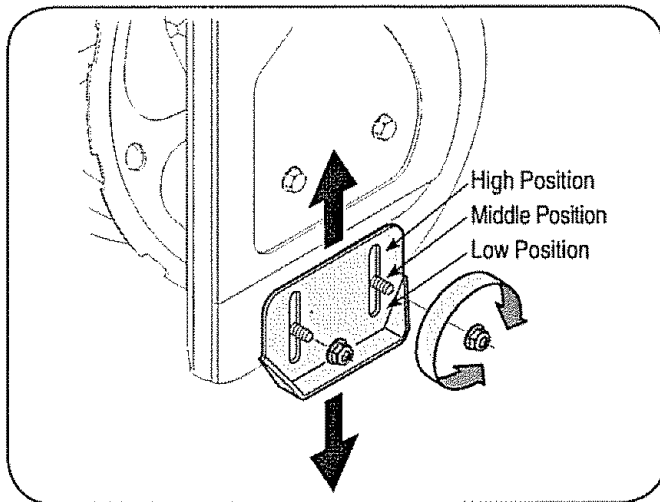
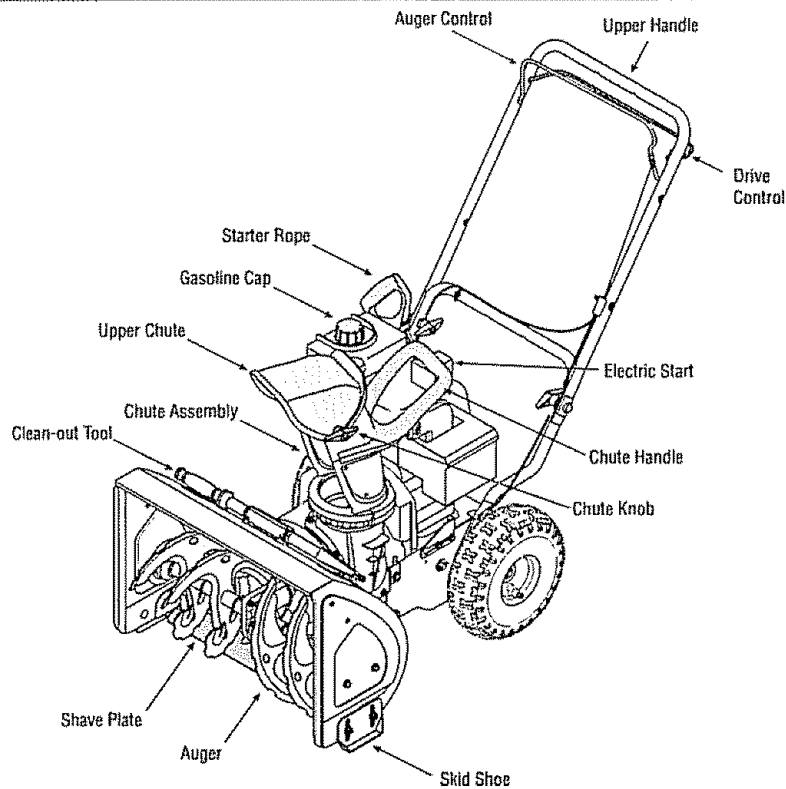

Figure 4
Figure 5
The space between the shave plate and the ground can be adjusted. Refer to Figure 5 on page 8 for location of shave plate and skid shoes. For close snow removal, place skid shoes in low position. When area to be cleared is uneven, place skid shoes in the middle or high position. See Figure 4.
1. Adjust skid shoes by loosening two nuts and carriage bolts on each skid shoe, and moving skid shoe to the desired position. See Figure 4.
NOTE: Compare Figures 5 & 6 with your equipment and follow description of controls, given below, to become familiar with their operation.